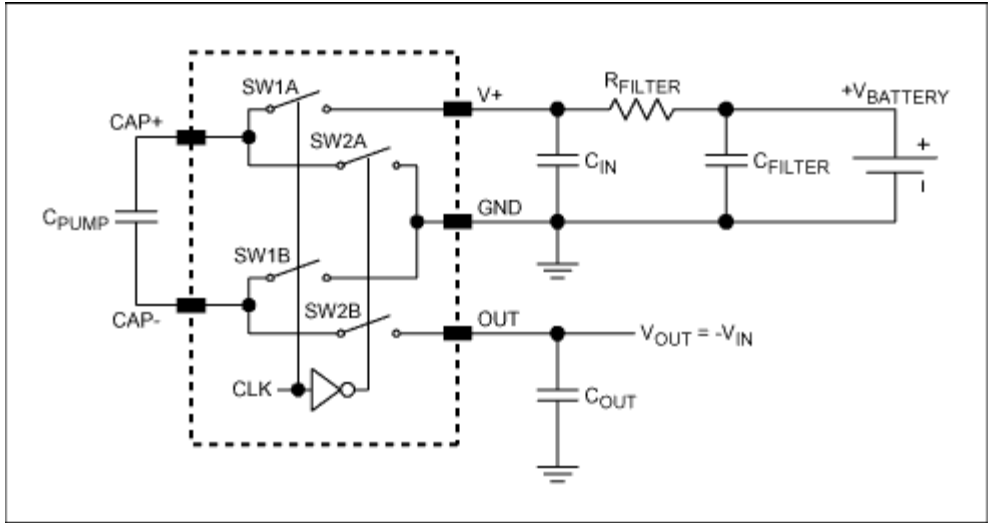

Figure 9. Battery application featuring a charge pump inverter with input RC ripple filter.
4. Adding an RC to the input supply (Figure 9) is a single-order version of the LC-filter approach. The RC input is not generally recommended, because the low value of R_{FILTER} required for minimal efficiency loss ($< 5\Omega$) forces a very large C_{FILTER} . Figure 10 shows the effect of adding an RC filter at the input of the Figure 9 circuit, in which a MAX665 with $100\mu F$ capacitors generates a 5V output with a load resistance of 51Ω .
Figure 10. Input Voltage and Current Ripple for the RC-filter circuit (Figure 9): $C_{IN} = C_{FILTER} = 100\mu$ F, and $R_{FILTER} = 2.2\Omega$. Charge pump is a MAX665. Input current ripple (upper trace): 100mA/div. Input voltage ripple (lower trace): 20mV/div, AC coupled.